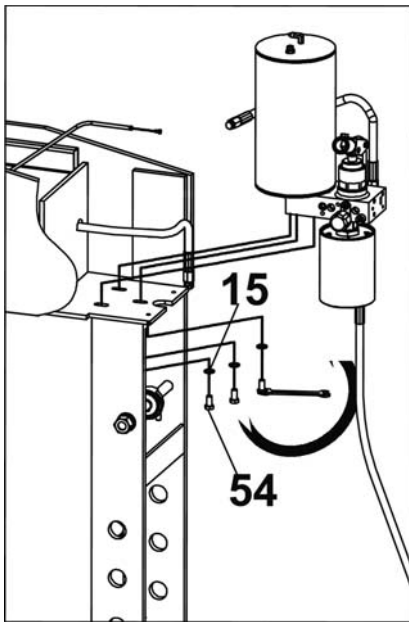

Figure 1
- 3) Disassemble the pump assembly from the press frame. Then assemble the pump assembly onto the upper right of the press frame using bolt (#54) and flat washer (#15). (Figure 1)